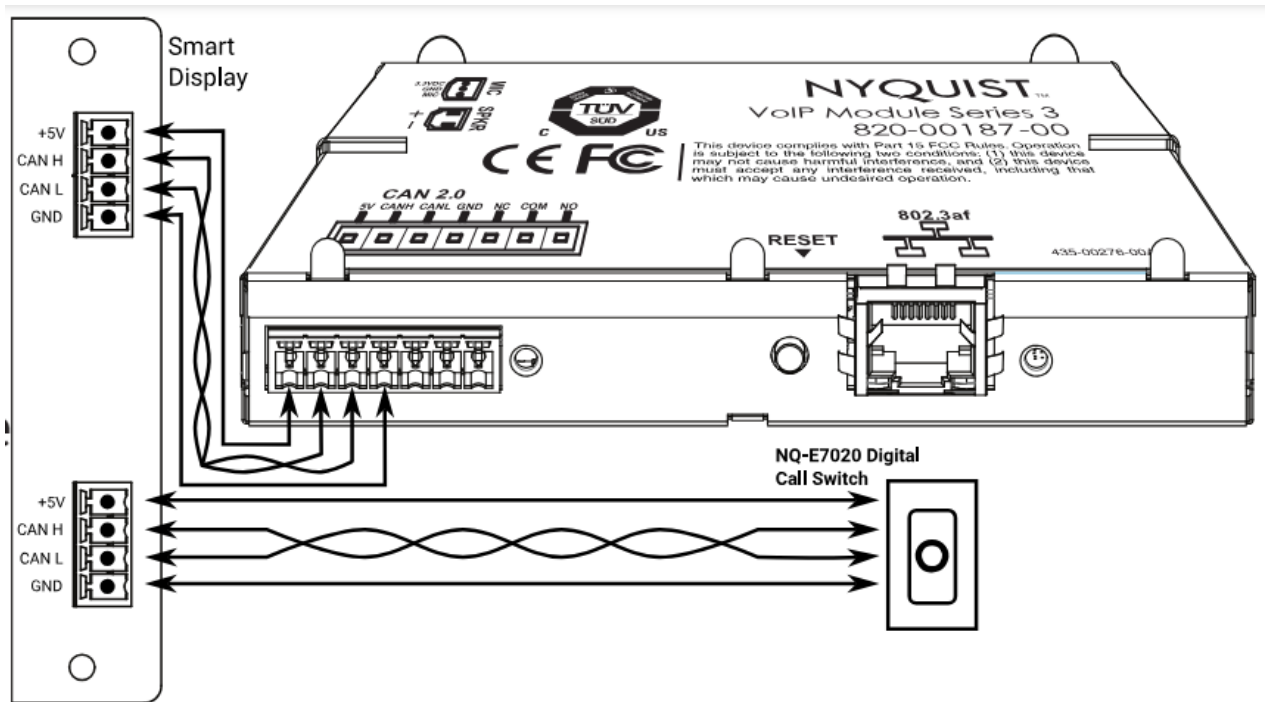

Figure 8: CAN bus connector with multiple digital call switches
3. When applicable, use the pluggable CAN bus connector to attach one or more NQ-E7020-G2 Digital Call Switches to the Nyquist VoIP Module 820-00187-00 via the NQ-S1810WBC's smart display connectors, as shown in Figure 8.